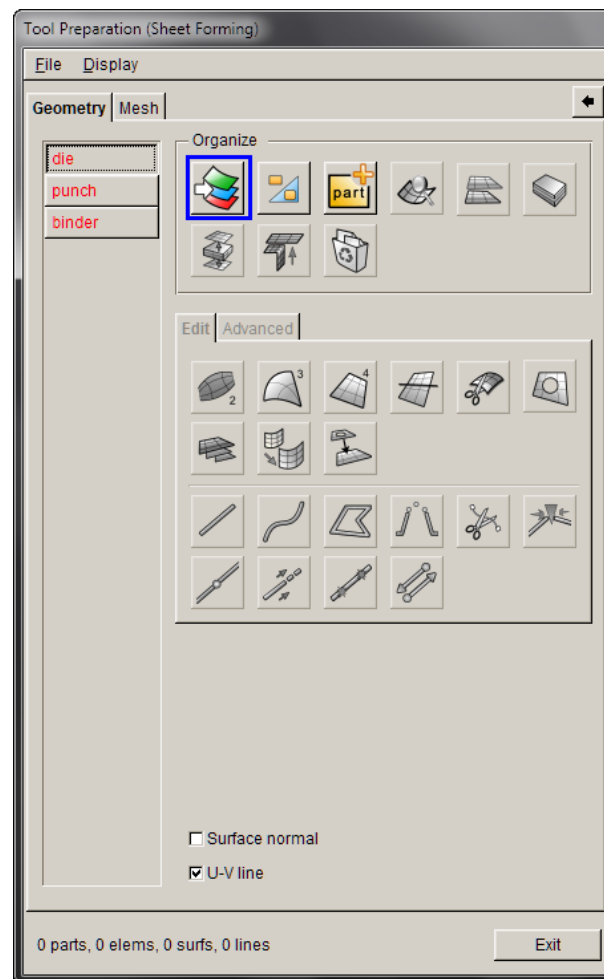

Figure 31
3. Click **Define Tool** icon in **Tool Preparation** dialog box. (Figure 31).